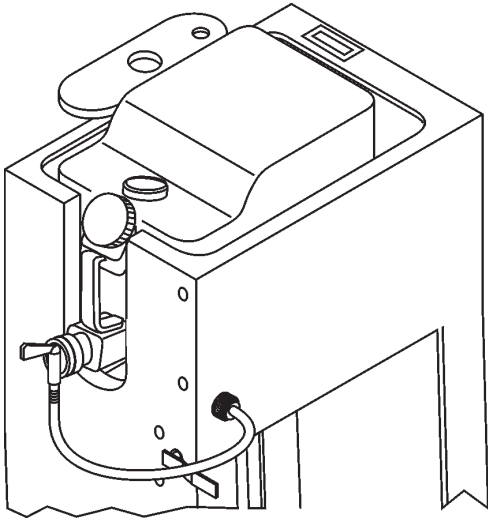

Figure 18. On-board Water Tank Hose Connection
The SP2 Slab Saw is equipped with a removable 5-gallon on-board water tank fitted in the top of the console which can be connected to the brass hose fitting on the rear of the operators console (Figure 18).
2. For wet cutting operations, ensure the water tank is filled to capacity (5 gallons). Connect the water tank hose to the water system brass fitting on the rear of the console (Figure 18) and test for adequate water flow to the diamond blade before operation.